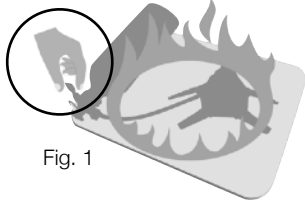

Fig. 1
1. Place the ventilation port of the first panel over the fuel line (Fig. 1)
1. Connect ends of plastic sheet using Velcro to form a tube (Fig. 1)
1. If possible, TURN OFF THE STOVE to stop the flow of fuel and remove kettle/pot from the stove (Fig. 1)